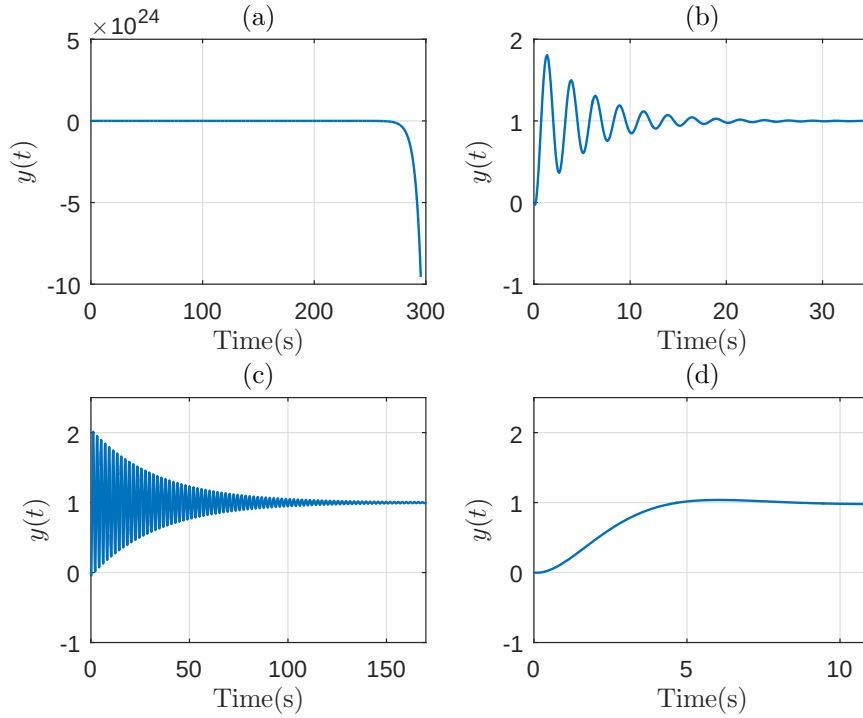

Figure 2: Step response
c) In Figure 2 the step responses of the closed-loop system with different proportional controllers are shown. Assign the following controllers